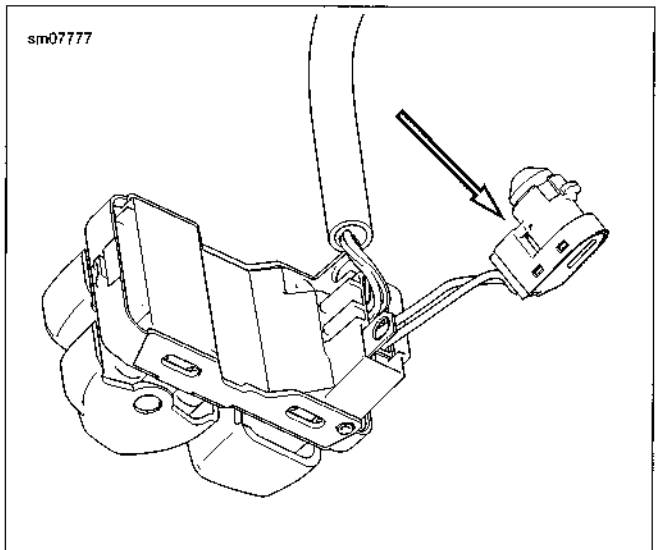

Figure 6-117. RH Control Module/Brake Lamp Switch
1. See Figure 6-117. Cut wires flush at inoperative stop lamp switch.